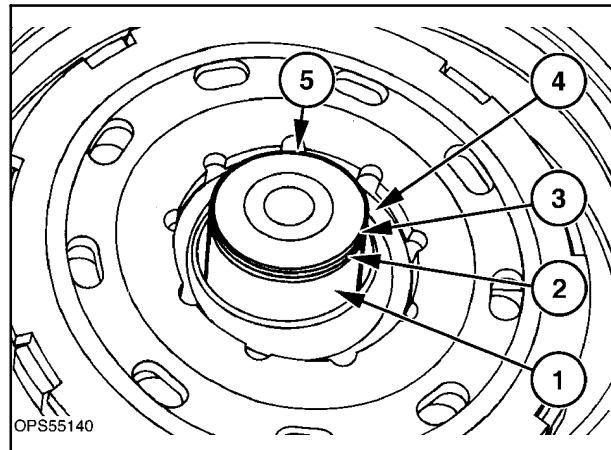

Figure 5-143
20. Using a dial indicator, check the end movement of the motor shaft, 1. If the end movement is over 1.02 mm (0.040"), add a shim washer on the end of the shaft at 5, Figure 5-143, between the back plate and thrust bearing race.